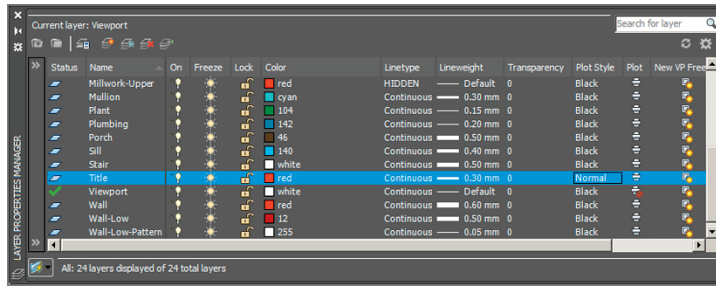

FIGURE 14.10 Configuring named plot styles by layer
2. Click the Title layer in the Layer Properties Manager to select it; all the other layers automatically deselect. Click the Plot Style on the Title layer, and change it to Normal in the Select Plot Style dialog box that appears (see Figure 14.10). The title text will now plot in red.